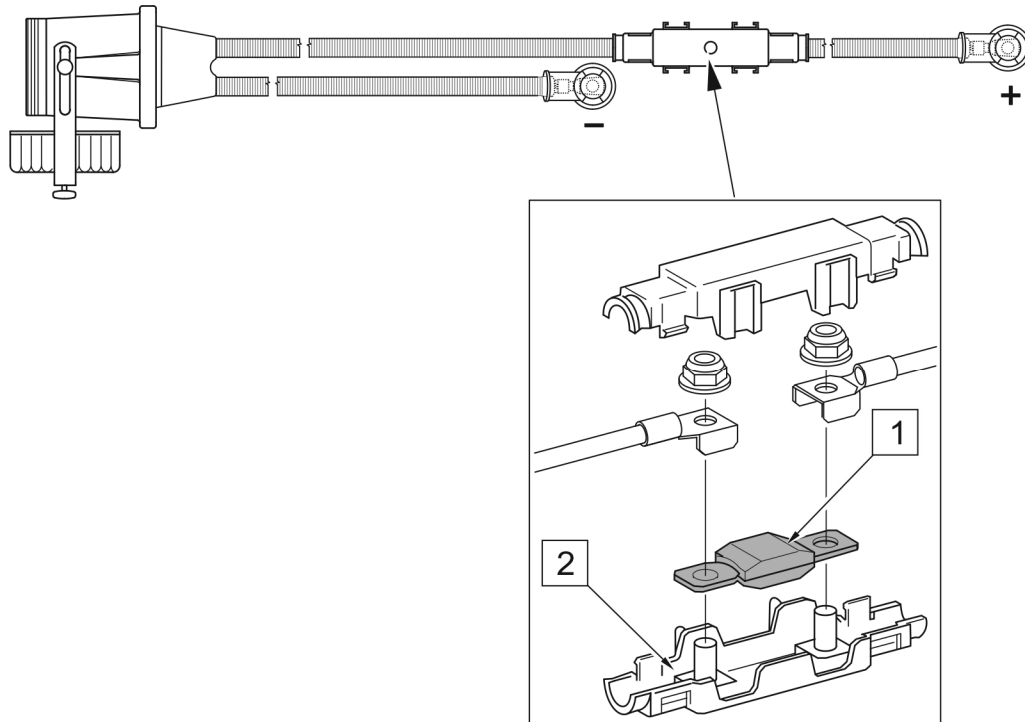

FIG. 5.6 Replace the Power-Pack Fuse (option)
(1) - UNIVAL 175A fuse; (2) - fuse holder
There is a 175A MEGAVAL fuse (1) on the supply conduit (+) of the electrical system of Power-Pack power supply (FIG. 5.6). To replace the fuse, undo nuts fixing the leads inside the fuse holder (FIG. 5.6).